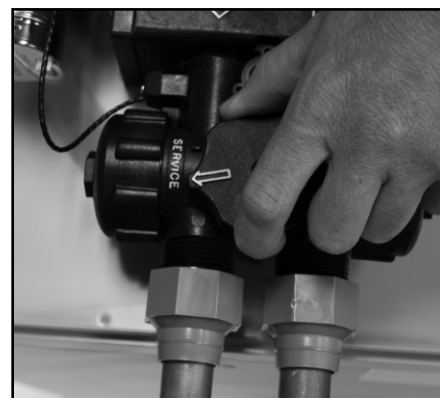

Figure 7: Service Position
- 6. Place the appliance in the Service position to slowly fill the media tank. (See Figure 7.)
- A. Ensure that the appliance is in the Service position. See Figure 7.